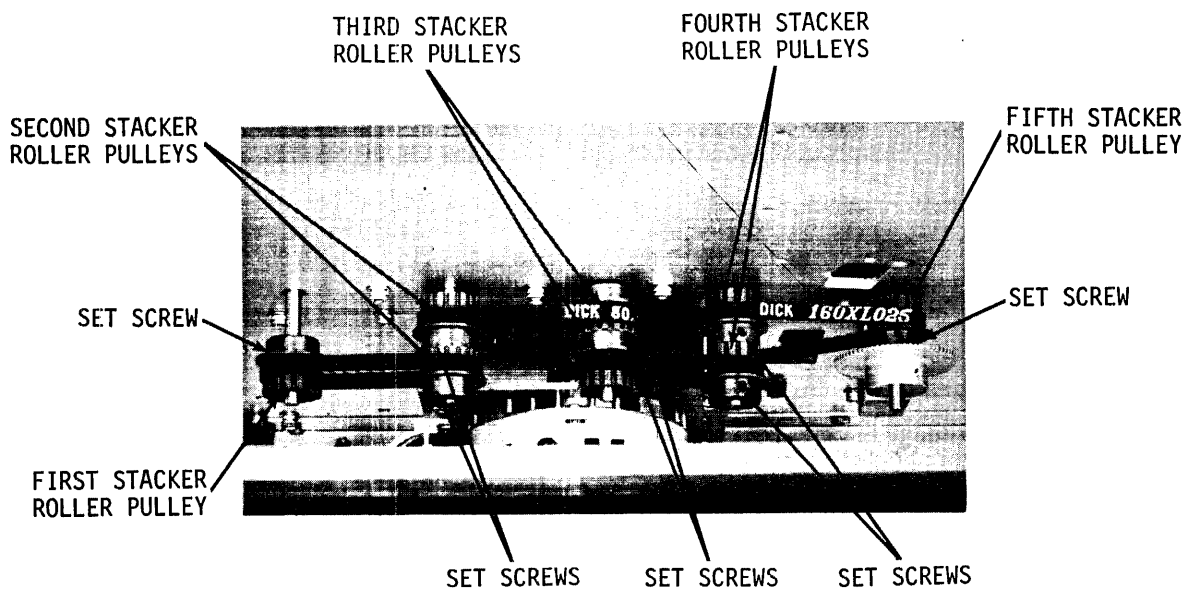

Figure 9-5. Stacker Drive Train Pulley Arrangement
- e. Using 3/32 Allen wrench, LOOSEN set screw in fifth stacker roller pulley, figure 9-5.
- g. Using a 3/32 Allen wrench, LOOSEN set screw in bottom fourth stacker roller pulley, figure 9-5.
2. Slip belt over upper fourth stacker roller pulley, figure 9-5.
3. Place belt over fifth stacker roller pulley, figure 9-5.
4. Replace this pulley on fifth stacker roller shaft, figure 9-5.
5. Replace bottom fourth stacker roller pulley, figure 9-5.
- b. Using a 3/32 Allen wrench, LOOSEN set screws in bottom third and fourth stacker roller pulleys, figure 9-5.
Observe the position of the upper pulleys with respect to the mainframe, figure 9-5. Note that pulleys three, four and five are installed close to the mainframe with a slight clearance. Pulley number two should be lowered sufficiently to allow the belt to line up with pulley number three.